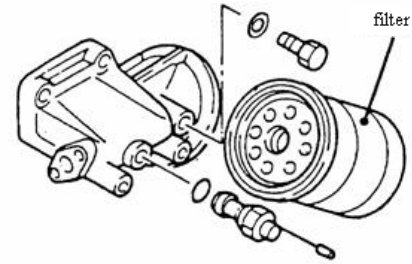

Fig.1.8
1.6.3 Replacement of oil filter (Fig.1.8)
The ancillary radiator as Fig.1.8, when the antifreeze under the “LOW” scale, it means need to add coolant, add to the 2/3 scale of the up and down scale.